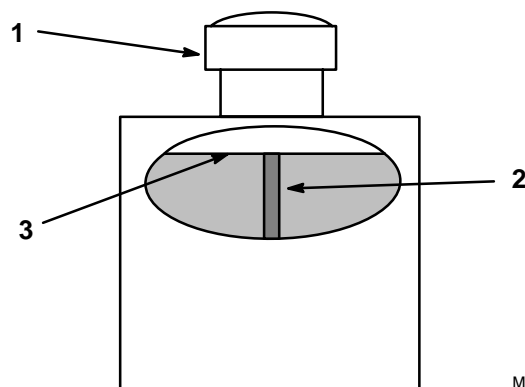

Figure 36
2. Clean area around filler neck of hydraulic tank (Fig. 36).
3. Remove cap from filler neck. Look inside to check if there is fluid in the reservoir. (Fig. 36).
Note: Fluid level should be to the top of the baffle when fluid is warm (Fig. 36).